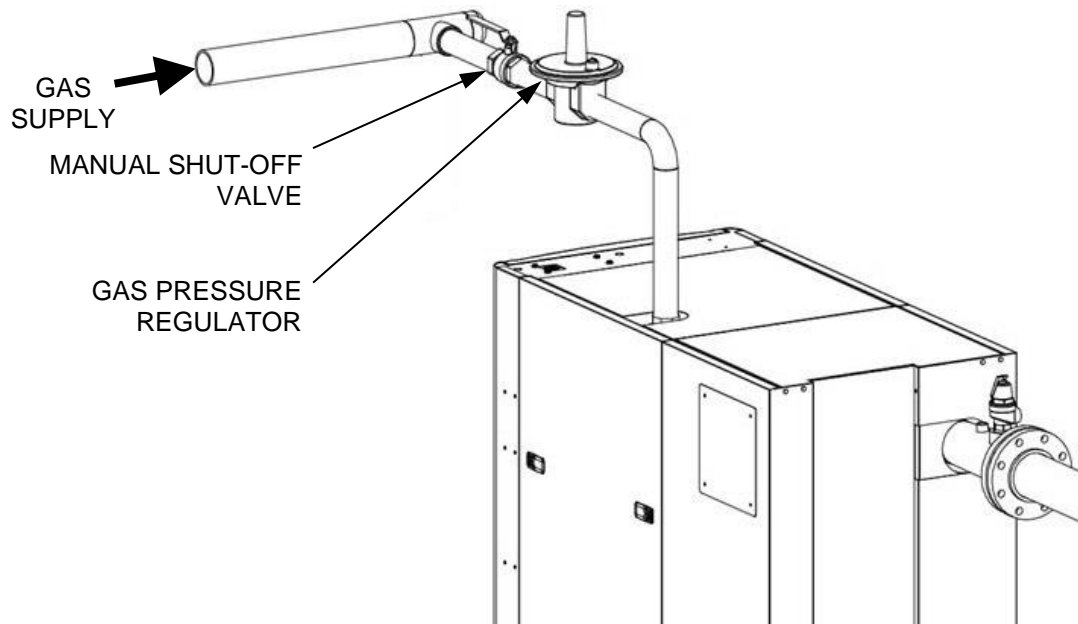

Figure 2: Multiple Boiler Gas Pipe Connections Guidelines (BMK2500 Shown)
- For Benchmark 1500 through 6000 units, when installed horizontally, the required distance between the gas pressure regulator and the nearest pipe fitting, elbow or valve is **5 to 10 pipe diameters**, as shown in Figure 2, above.